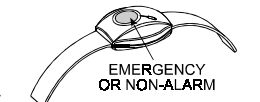

Figure 26. MCT-211
F. MCT-211* (Fig. 26) Waterproof, wrist-worn PowerCode transmitter. Can be enrolled to perform emergency or non-alarm functions.